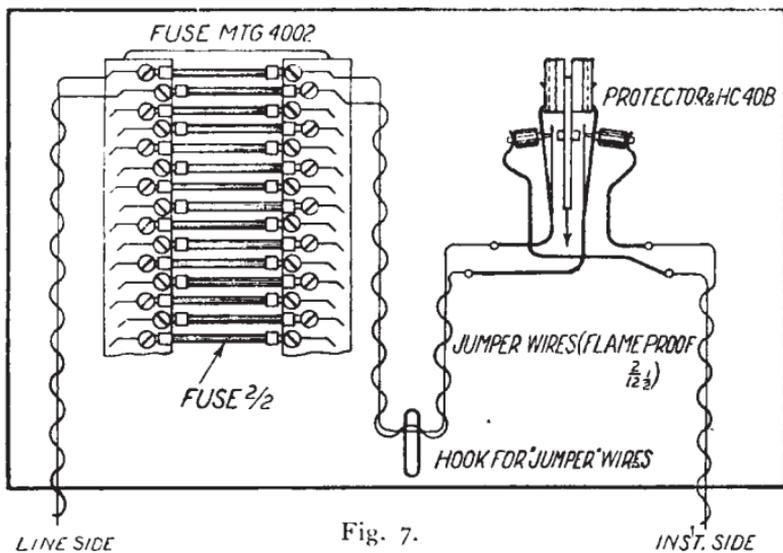

Fig. 7.
**Distribution cases** (see Fig. 7 of P.W. - D.18) are fitted at points at which it is desired to connect, without protection, 5 or more pairs of external cable to internal wiring, and whenever it is desired to provide a variable connection between one cable and another, or individual wires or leads. They also serve as testing and localising points, especially when fitted in connection with a private branch exchange.
Protectors HC and F 20/40, 40/40 and 40/80, which are illustrated in Figure 7, are provided with strips of fuses to which the line wires are connected, and strips of protectors and heat coils to which the internal wiring is connected, with a cross connection field between the two strips.